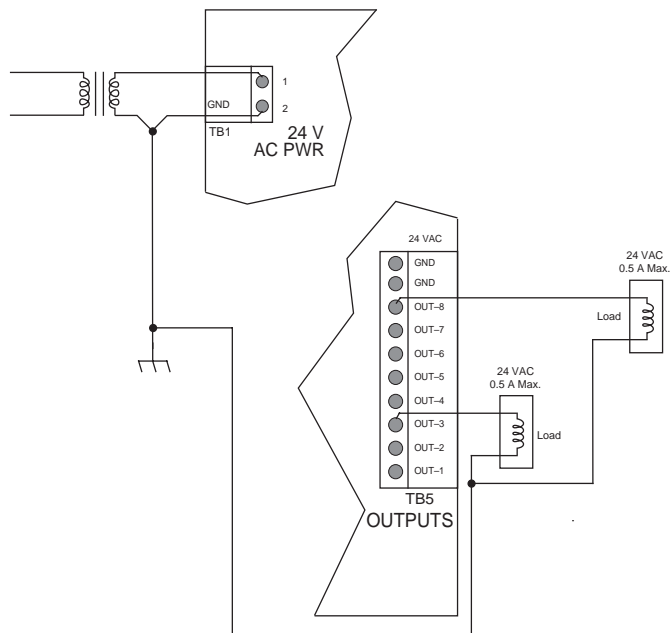

Figure 13. MR88 Triac Output Connections
1. Connect one lead from the device to the desired output (OUT-1 through OUT-8) terminal at TB5 (see Figure 13).